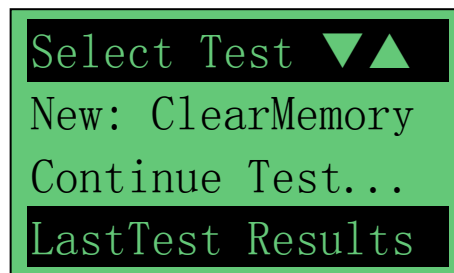

Figure 78
3. Pressing  key once will scroll down to the 'Last Test Results' as shown below (Fig. 78)